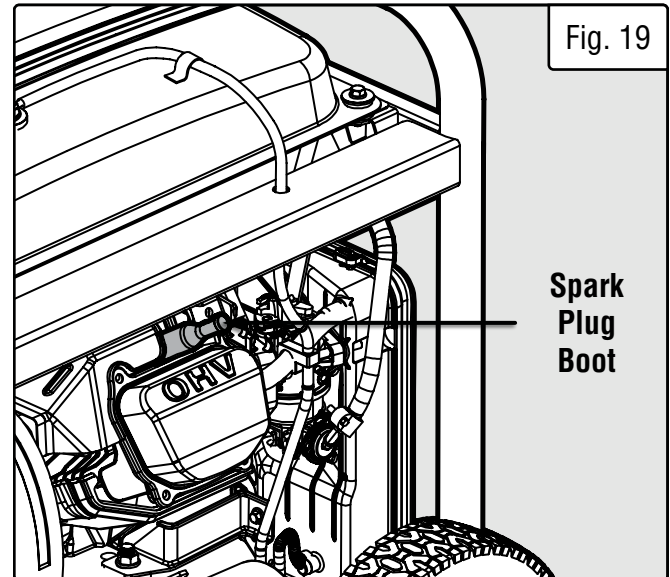

Fig. 19
1. Pull on the spark plug boot to remove it (Fig. 19). Be careful not to tear insulation or wire.